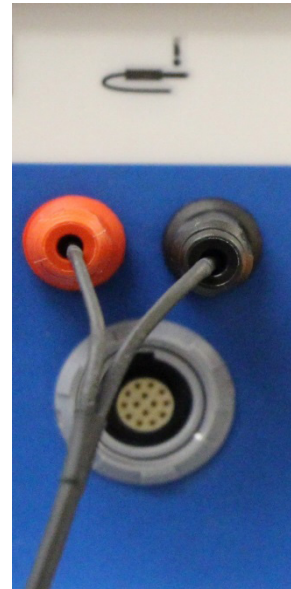

FIGURE 16: THERMOCOUPLE CONNECTIONS
5. Insert the corresponding red and black colored connections into the thermocouple connectors, see Figure 16.